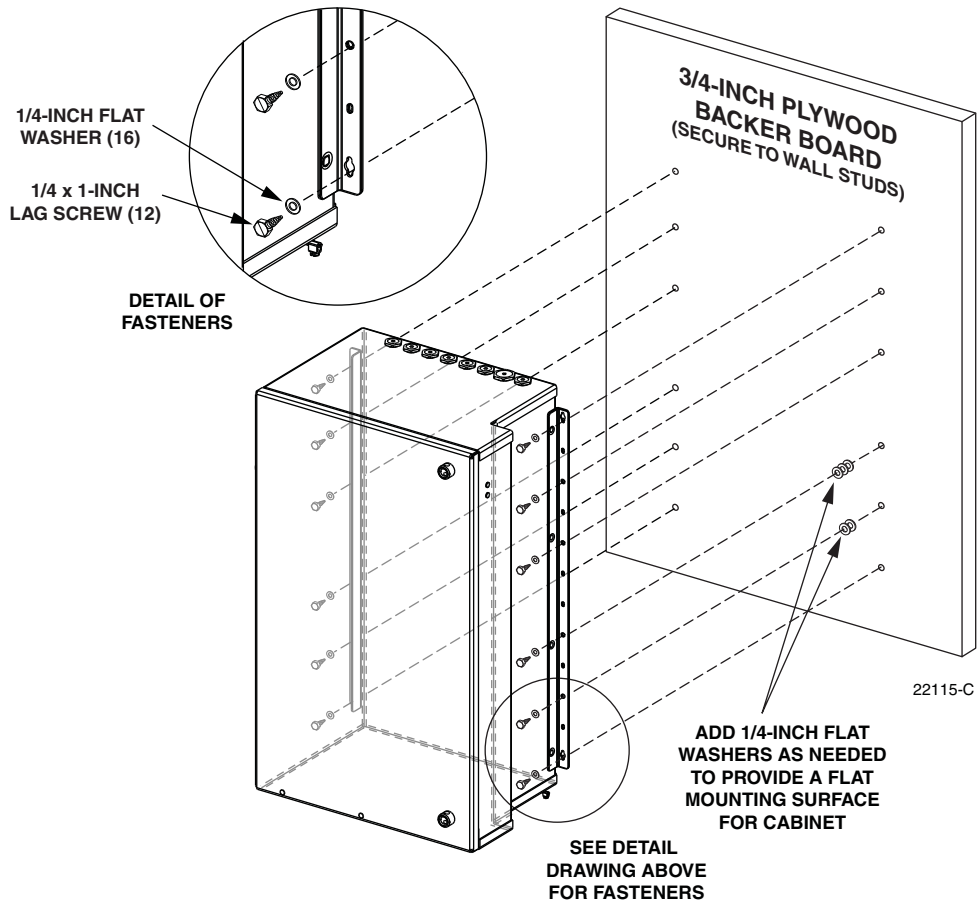

Figure 12. Secure Cabinet to Plywood Backer
5. Secure the cabinet to the plywood backer, as shown in Figure 12, using the twelve 1/4 x 1-1/2-inch lag screws and 1/4-inch flat washers. Tighten lag screws securely.